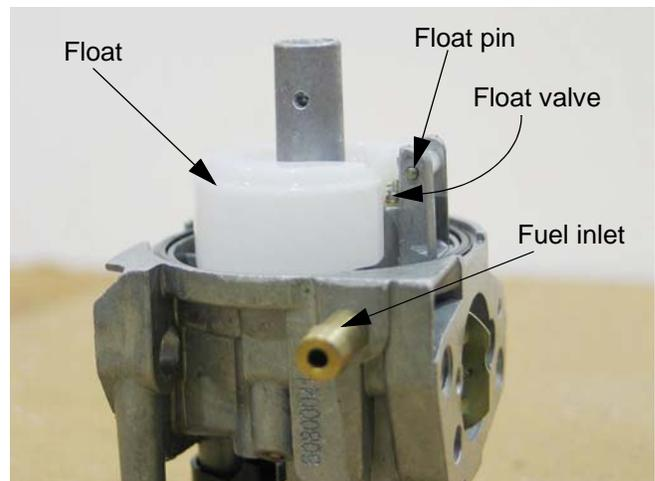

Figure 4.45
4. When inverted, the float should rest in a level position. See Figure 4.45.